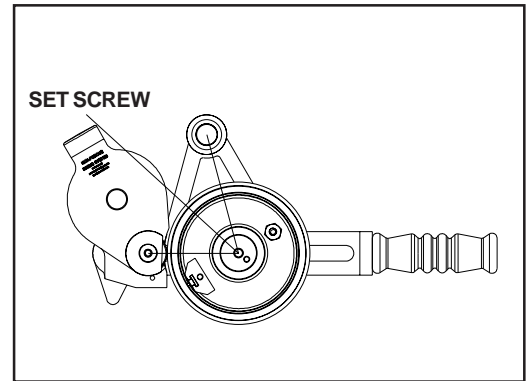

FIGURE 47
- 4- If the Brass Tip Set Screw is not pointing in the direction shown in Figure 47, rotate the Index Ring in a Counter-Clockwise Direction until it points in the direction shown.